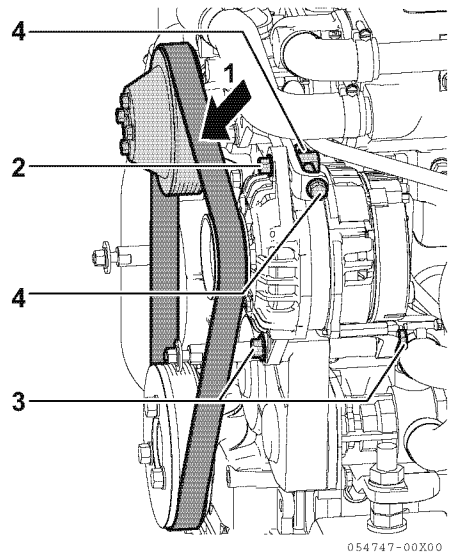

Figure 4
2. Check the belt by pushing on the middle of the belt (**Figure 4, (1)**) with your finger.
3. Loosen the 3 bolts of alternator (**Figure 4, (2) (3) (4)**).
4. Screw in the adjusting bolt (**Figure 4, (4)**) and move the alternator to adjust the belt tension properly.